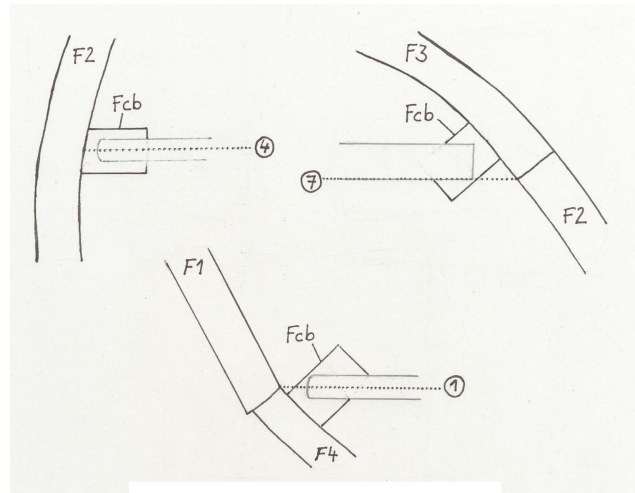

Fig. 49: Positioning Fcbs
**Step 5** Weld the attachment pieces for points A (F5) perpendicular to F2 as shown in Fig.49